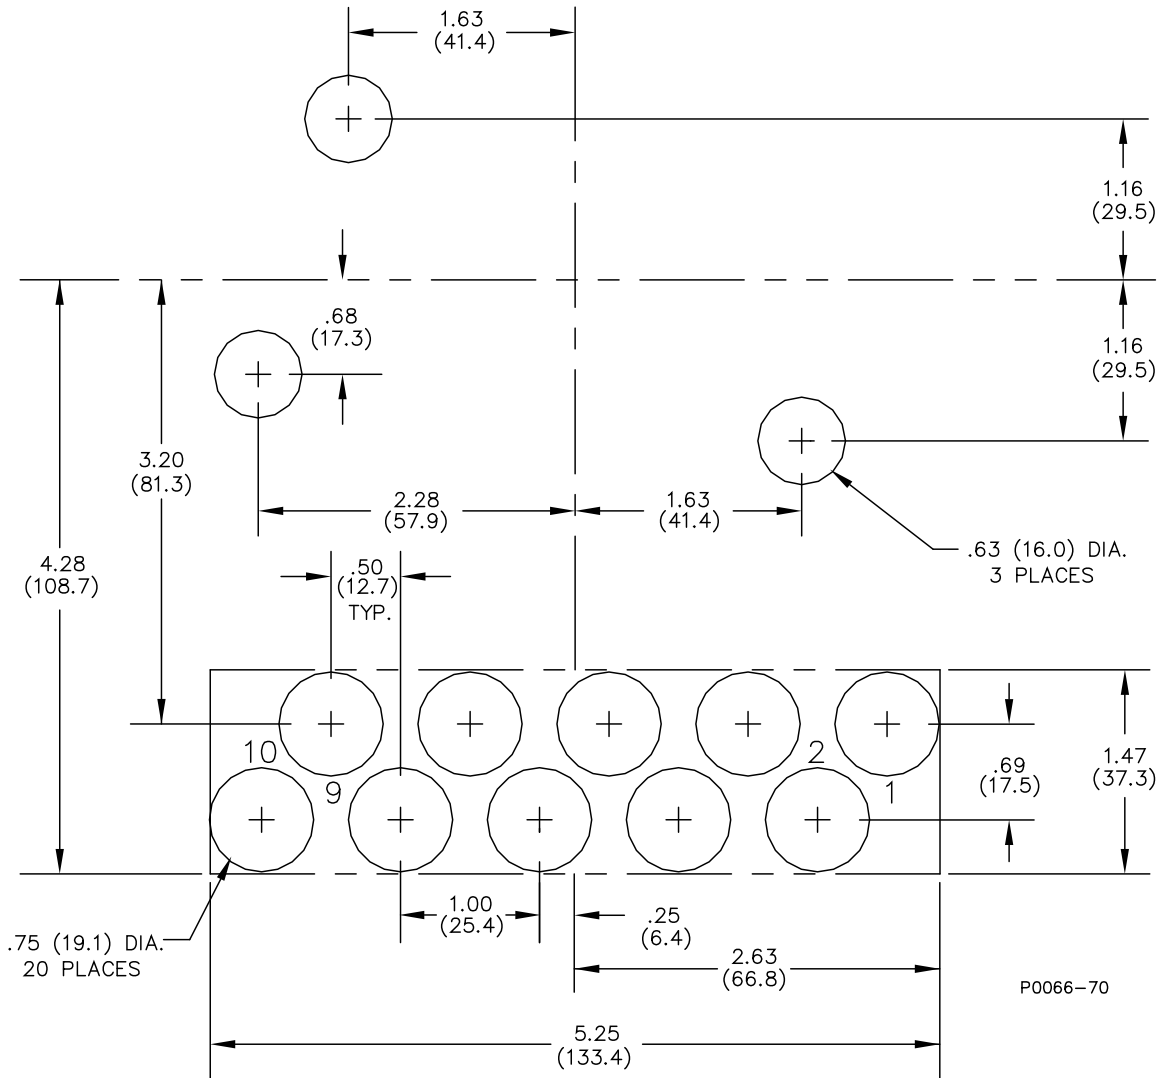

Figure 4-9. Panel Cutting/Drilling, Single Ended, Projection Mount, S1 Case
- Figure 4-9: Panel Cutting/Drilling, Single Ended, Projection Mount, S1 Case